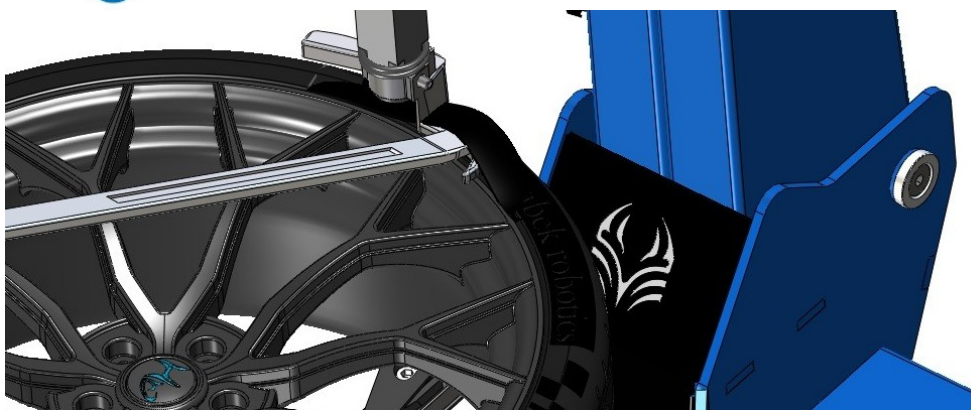

Fig. 12. Tyre removal.
- Place the lever on the finger of the working head (fig. 11, item 1) and pull the edge of the tyre over the head (fig. 11, item 2) - as in figure 12.